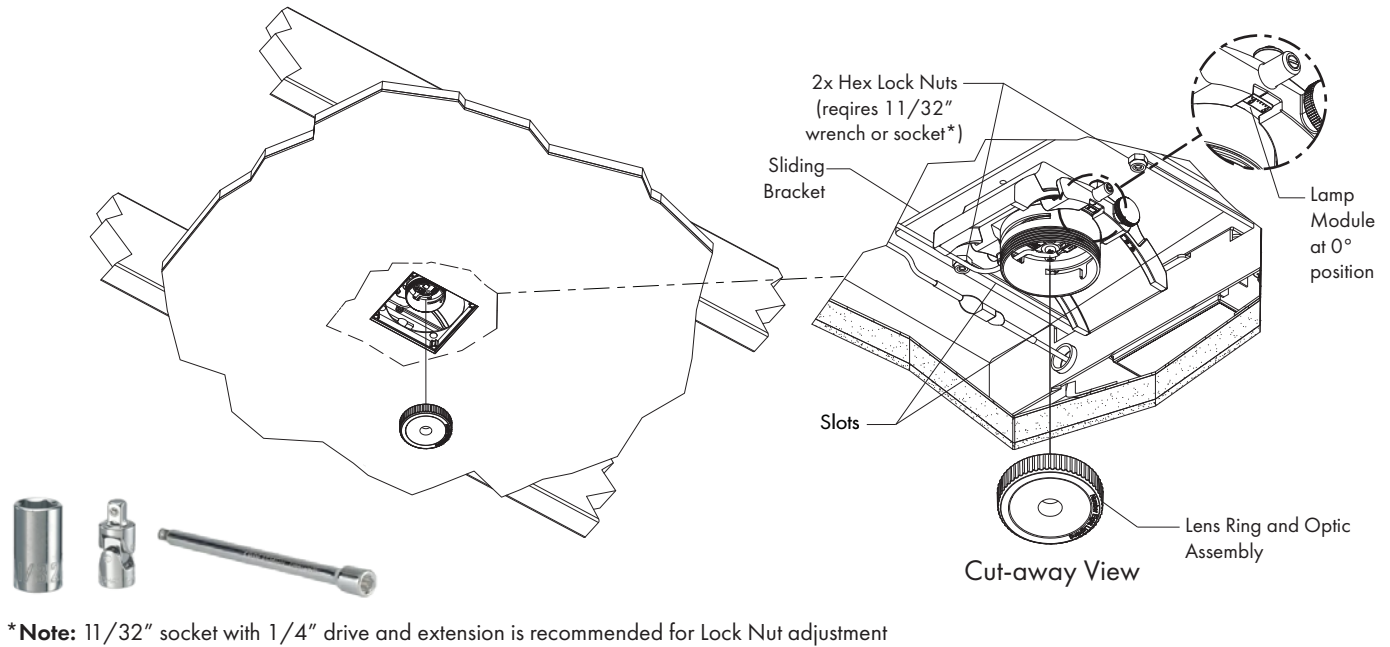

FIG 14.1 Sliding Bracket Adjustment
STEP 1 Adjust Lamp Module to 0° and remove Lens Ring and Optic Assembly as shown in **FIG 14.1**.
STEP 2 Locate and loosen (DO NOT REMOVE) 2x Hex Lock Nuts as shown in **FIG 14.1**.
STEP 7 Replace Lens Ring and Optic Assembly - See **FIG 14.1**.